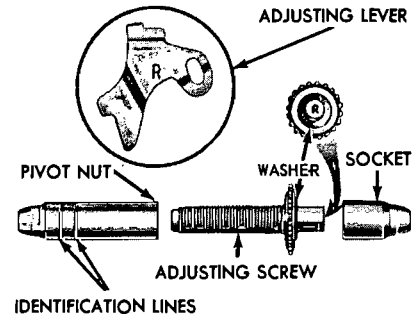

FIG. 9 Adjusting Screw and Lever Identification
9. Apply high-temperature grease (ESA-M1C75-B) to the threads and the socket end of the adjusting screw. Turn the adjusting screw into the adjusting pivot nut to the limit of the threads and then back off 1/2 turn. Interchanging the brake shoe adjusting screw assemblies from one side of the vehicle to the other would cause the brake shoes to retract rather than expand each time the automatic adjusting mechanism operated. To prevent installation on the wrong side of the vehicle, the socket end of the adjusting screw is stamped with an R or L (Fig. 9).
11. Hook the cable hook into the hole in the adjusting lever. The adjusting levers are stamped with an R or L to indicate their installation on right or left brake assembly (Fig. 9).